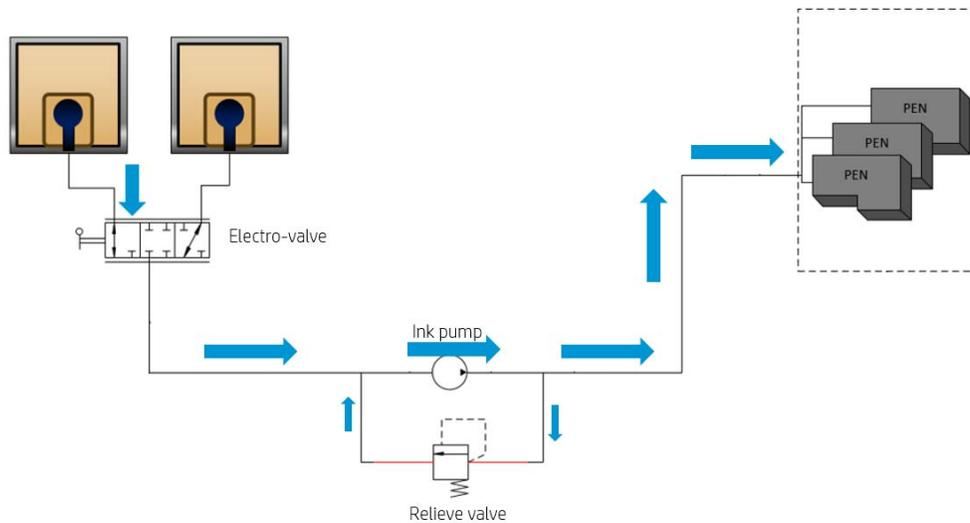
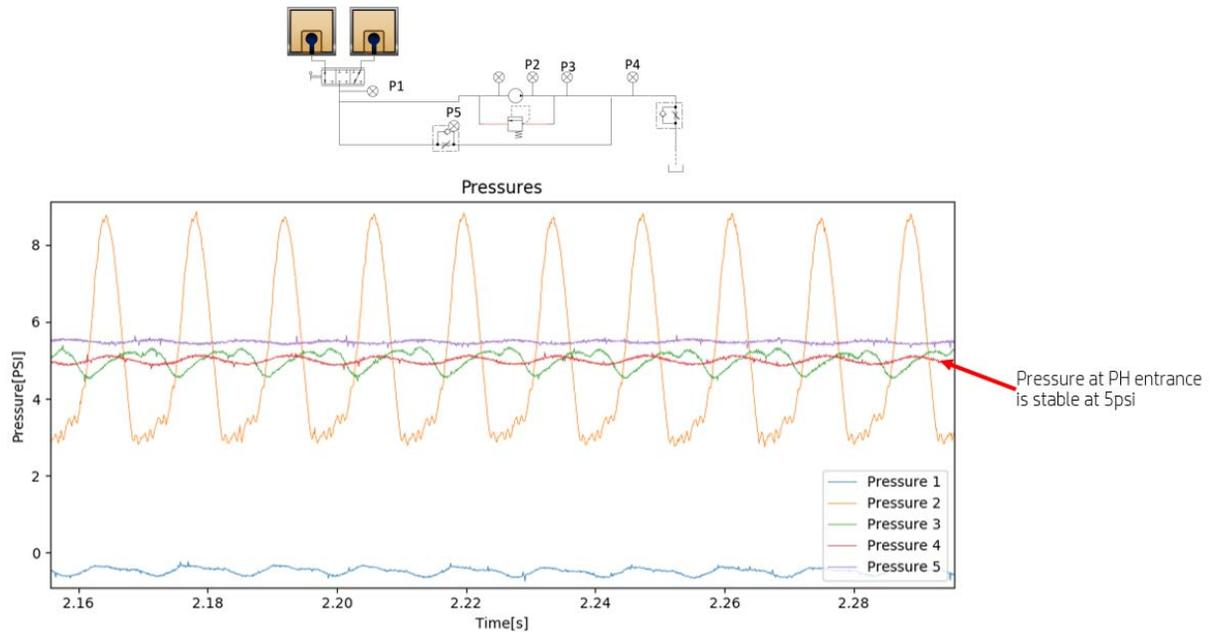

Figure 4: Ink consumption
Figure 5: Pressure measures during printing test
**When the Print Head starts firing ink and requires to be filled by the Ink Delivery System, the pressure in the ink line will drop, causing the relief valve to close. Thus, the ink is now flowing from the Supply to the Print Head by the action of the ink pump [Figure 4]. The pressures during printing can be observed in Figure 5, where Pressure 1 represents the pressure at the entrance of the ink pump and Pressure 4 is the ink pressure at the entrance of the Print Head. As it can be seen, the relief valve works as expected and regulates the ink pressure along the line, ensuring only the necessary ink is flowing to the Print Head, while the rest is kept in the mini-recirculation circuit.**